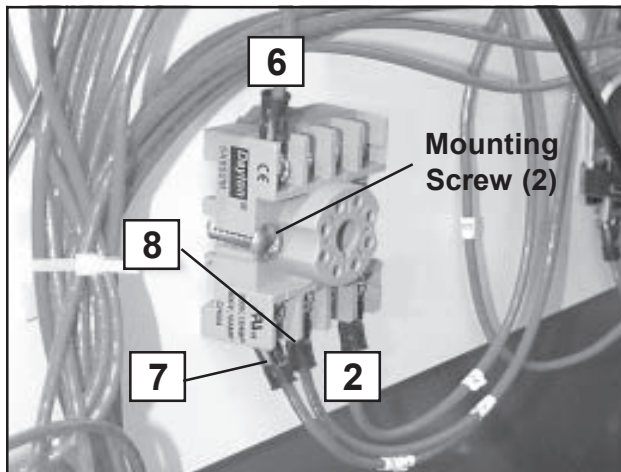

Figure 144. Octal Base Wire Connections
5. Mark all four wires on the base with the wire numbers shown in Figure 144 so that you can re-connect them correctly.
7. With a Phillips screwdriver, unscrew the two screws that hold the base to the partition (Figure 144), and lift out the base.